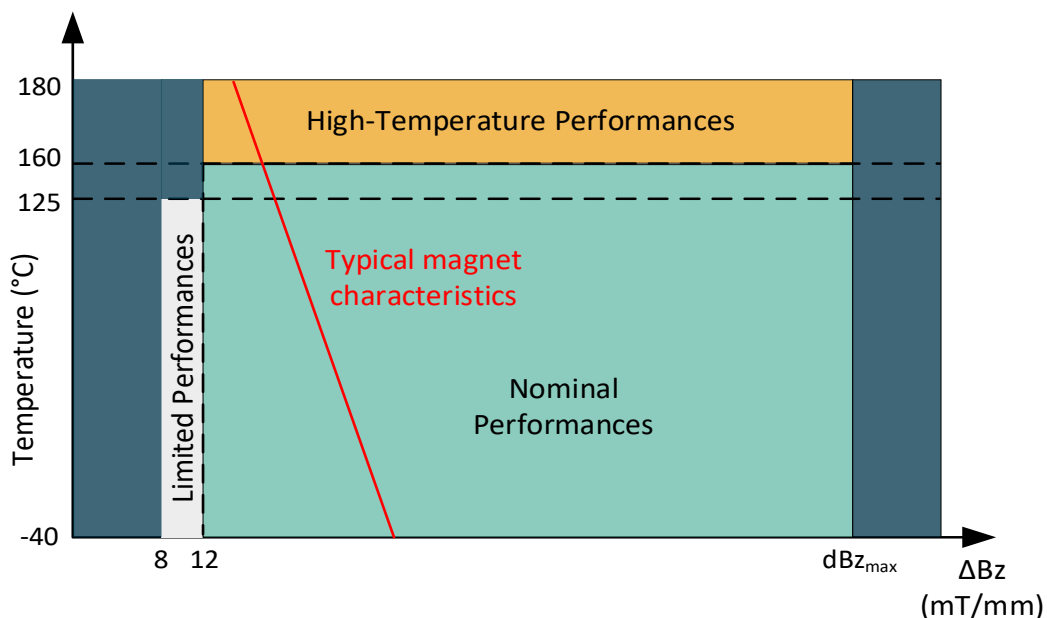

Figure 8 – Useful magnetic signal definition for stacked dice
The magnetic performances are listed in chapter 8.3. The Figure 8 defines under which conditions nominal or high-temperature performances apply.
(14) Only valid under the conditions of Figure 8. Outside of the “Limited Performances” zone, the performances are further degraded due to a reduction of the signal-to-noise ratio and signal-to-offset ratio.